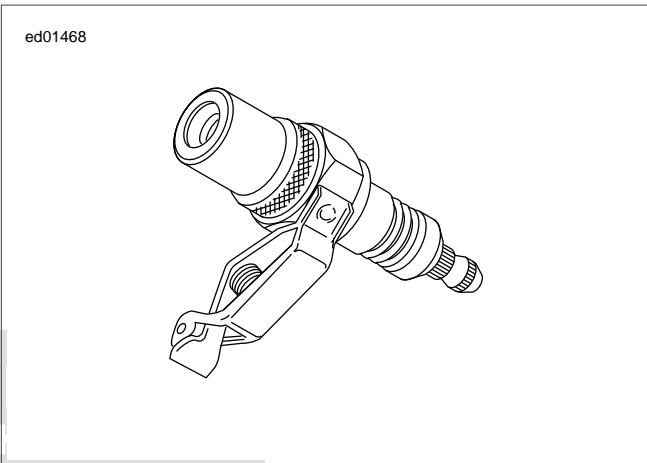

Figure 2-43. Spark Tester
1. See Figure 2-43. A SPARK TESTER (Part No. HD-26792) must be used to verify adequate secondary voltage (25,000 volts) at the spark plug.